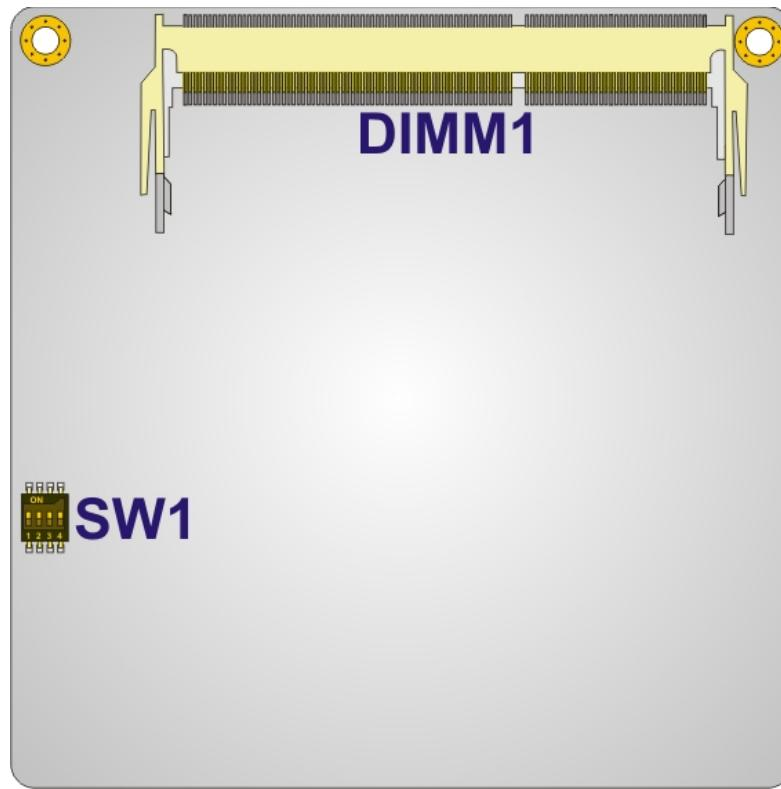

Figure 3-1: Connector and Jumper Locations (Front Side)
**Figure 3-1** shows the on-board peripheral connectors, backplane peripheral connectors and on-board jumpers.